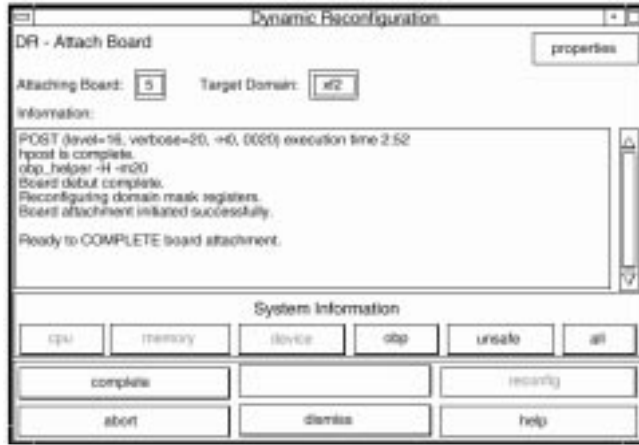

FIGURE 2-3 DR Window With the Complete Button
9. Click the complete button. (FIGURE 2-3)